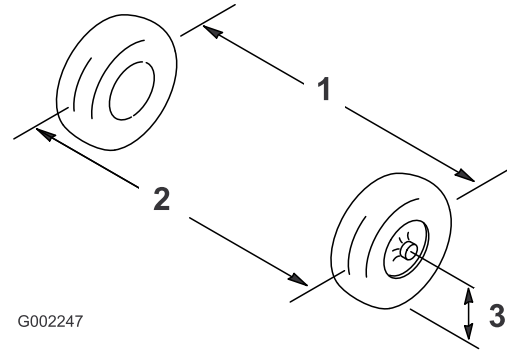

Figure 64
2. Measure the distance between both of the front tires at the axle height at both the front and rear of the front tires (Figure 64).